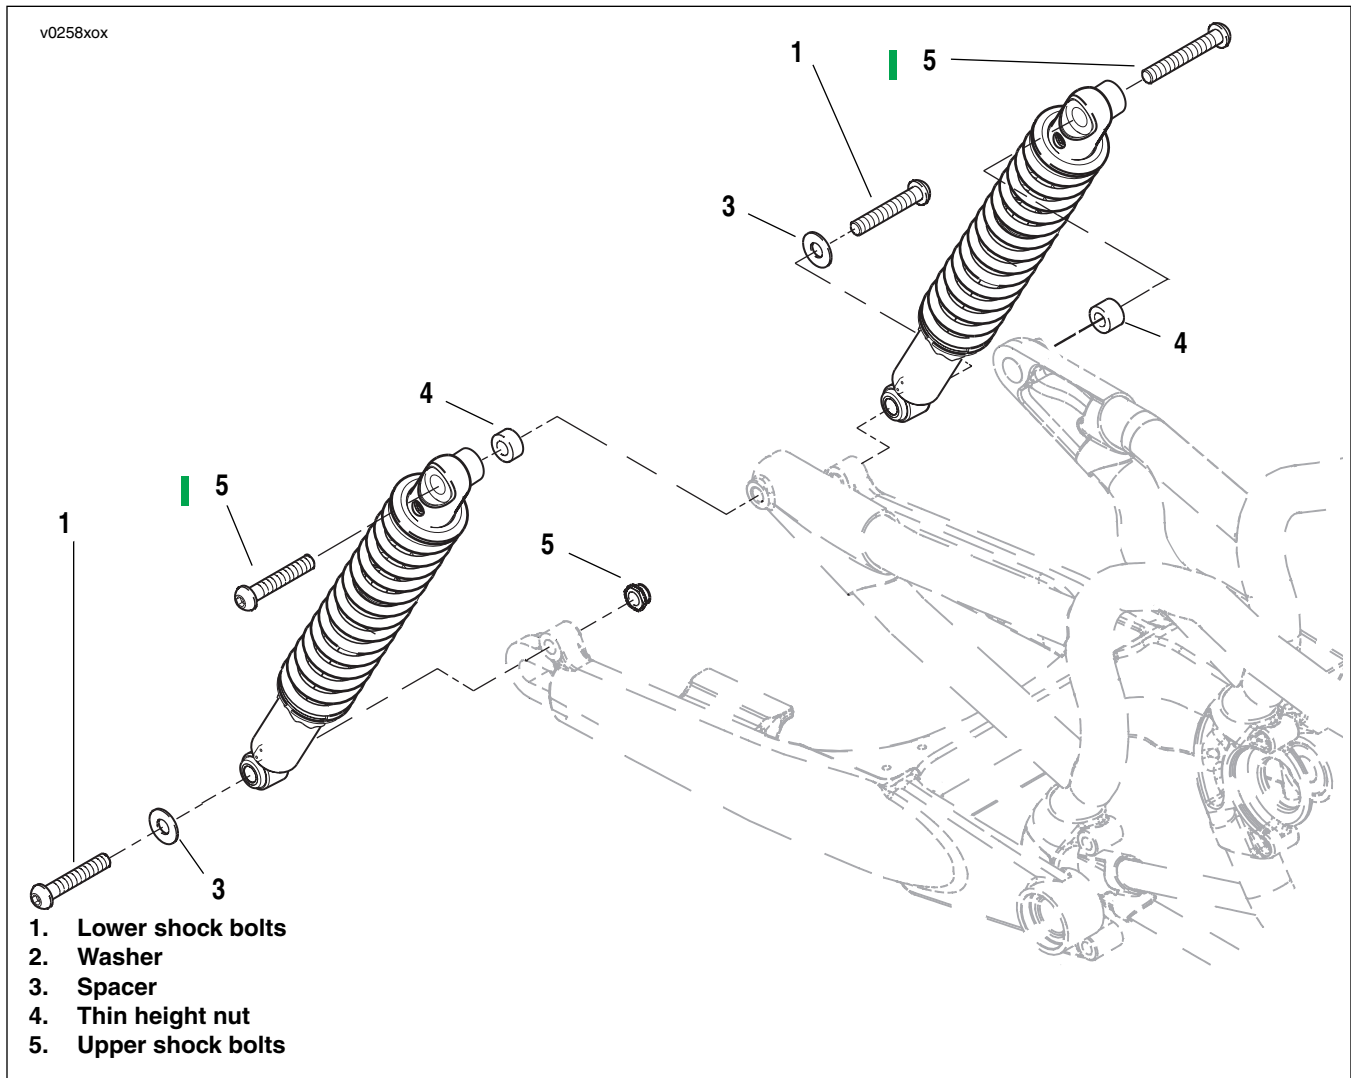

Figure 2-157. Rear Shocks (VRSCR)
2. See Figure 2-157. Remove lower fastener (1), washer (3), and thin height hex-nut (5) attaching right side shock to rear fork.
3. Remove lower bolt (1) and washer (3) from left side shock to rear fork and belt guard. Allow rear tire to rest on ground.
4. Remove top fastener (6) from left side top shock mount and remove shock.
5. Remove fastener (5) from right side top shock mount and remove shock.
2. See Figure 2-157. Add spacer (3) to upper shock bolts (5) and install bolts.
5. Coat threads with LOCTITE® 262 and thread left side lower shock bolt (1) and washer (3) through shock mount and rear fork into belt guard.
6. Coat threads with LOCTITE® 262 and thread right side lower shock mount bolt (1) and washer (2) through lower shock mount in rear fork into thin height nut (4).
7. Tighten lower shock mount bolts (1) to 41-68 Nm (31-50 ft-lbs).
8. Tighten upper shock mount bolts (5) to 115-125 Nm (85-92 ft-lbs).